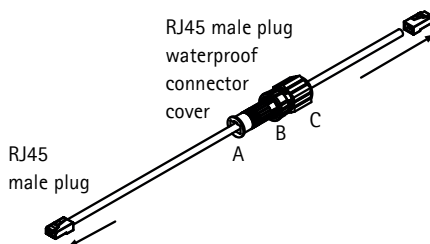

Fig 3
3. Thread male plug waterproof connector cover (A,B and C) on to the Ethernet cable. See Fig 3.
5. Thread plug (A) over the RJ45 male plug, connected to DATA IN. See Fig 3.
6. Thread housing (B) over the plug and screw (hand tight only). See Fig 3.
7. Thread cover (C) over the connector and screw (hand tight only). See Fig 3.